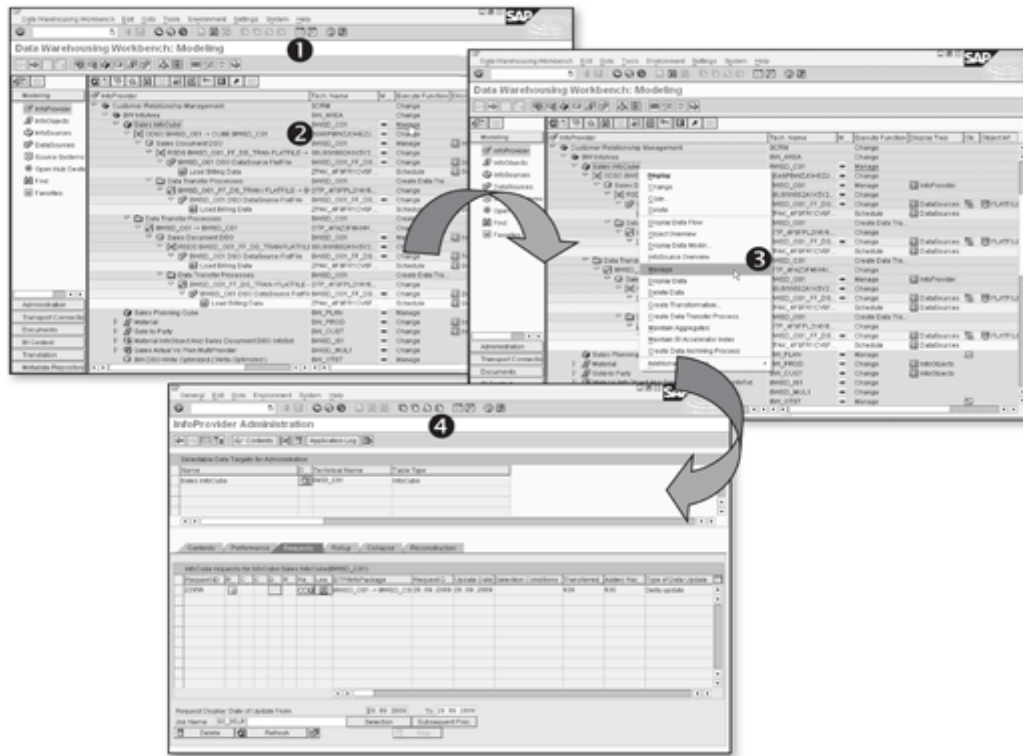

Figure 14.12 InfoCube Administration
To open the InfoProvider Administration screen, click on the Manage option from the context menu of the InfoCube in DWW (Transaction RSA1) (in sequence ❶, ❷ and ❸ of Figure 14.12).